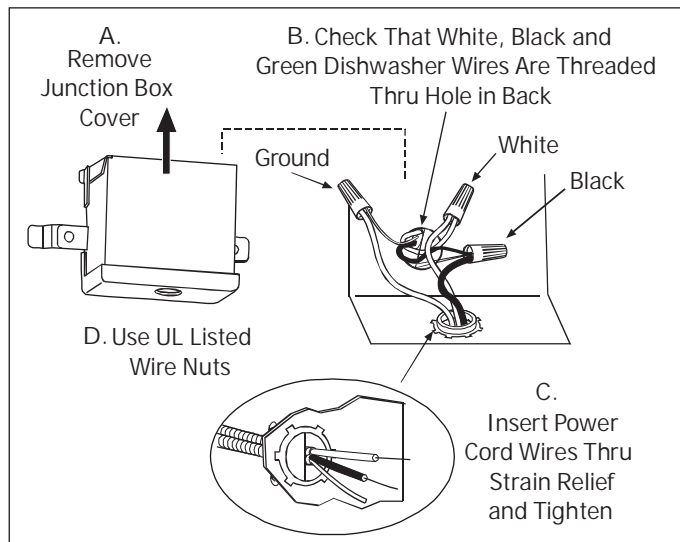

Figure 2-22.
1. Remove junction box cover "A". (See Figure 2-22)